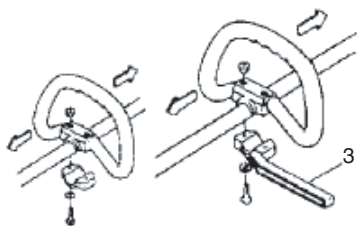

Fig. 2
When you use steel/rigid blades on straight shaft trimmers or brush cutters, always use a barrier bar (3) and shoulder harness with the loop handle. (Fig. 2)